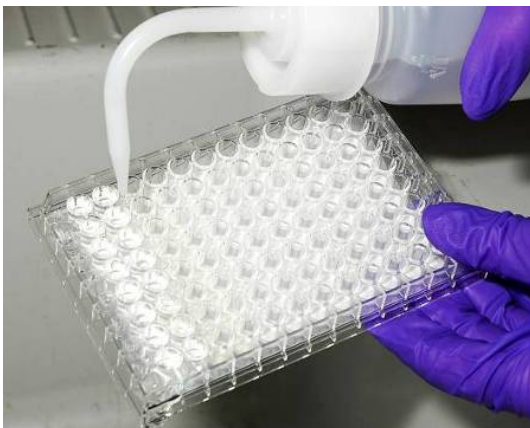

Figure 21: Wash wells with distilled or deionised water
*After washing the plate with distilled or deionised water (Figure 21), tap out any residual liquid onto absorbent paper. As the wells dry, the background decreases and the spots become more sharply defined and thereby, easier to count. Ensure the plate is thoroughly dry before reading.*